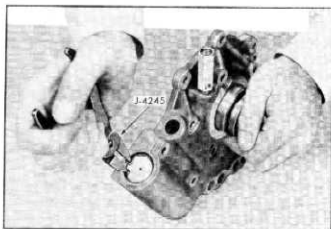

Fig. 105—Removing Accumulator Special Snap Ring
1. Using pliers J-4245 remove accumulator special snap ring (fig. 105).